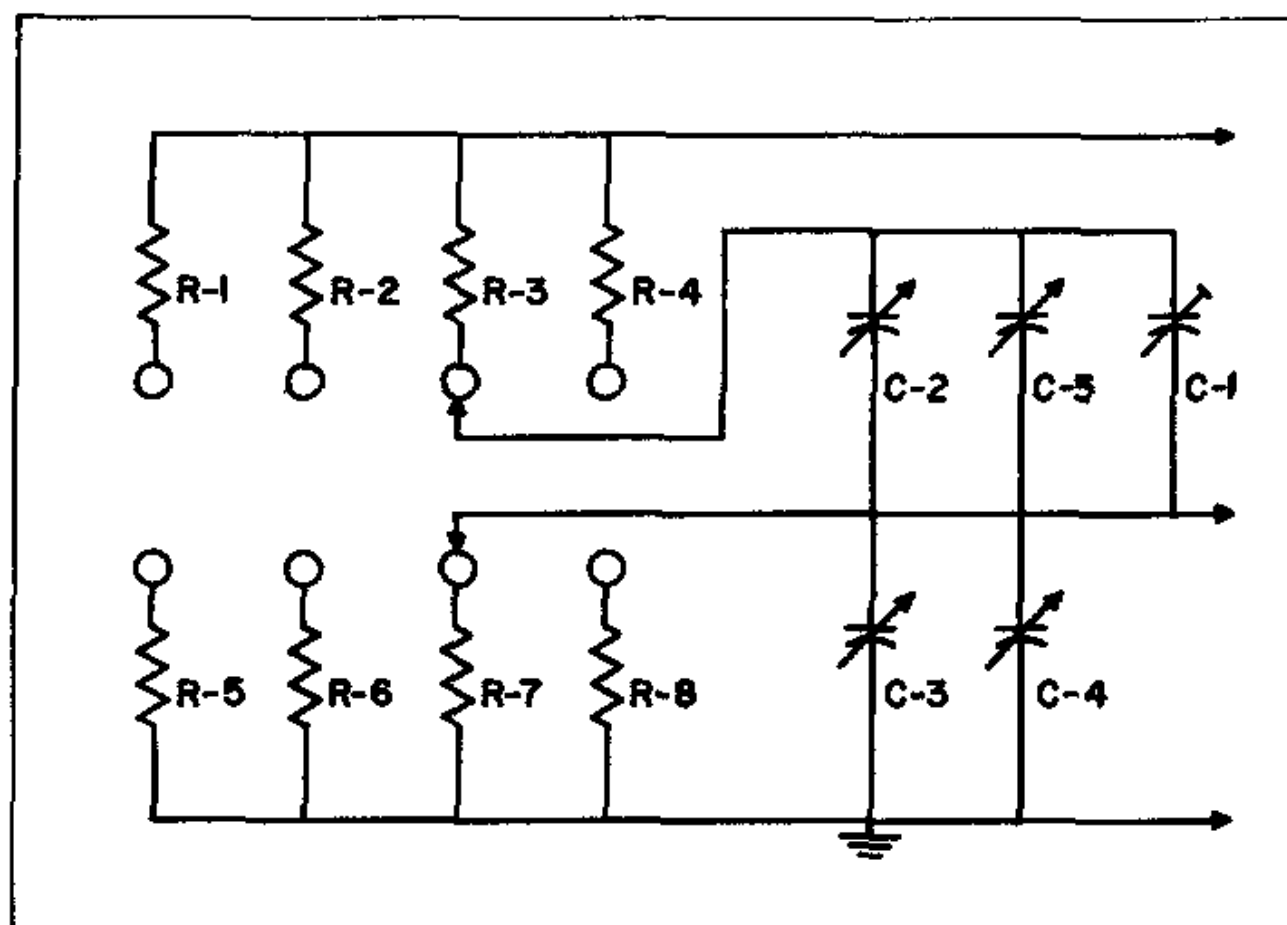

FIG. 10
**THE FREQUENCY DETERMINING NETWORK:** (See Figs. 10 and 11) The frequency determining network consists of two groups of variable capacitors and two groups of resistors wired to the band switch. Designating the resistor group R1-4 as R-S (in series with the associated variable capacitor) and R5-8 as R-P (in parallel with the associated variable capacitor), the values of R-S and R-P are fixed for each band. R-S and R-P are always equal in value, as are C-S and C-P.